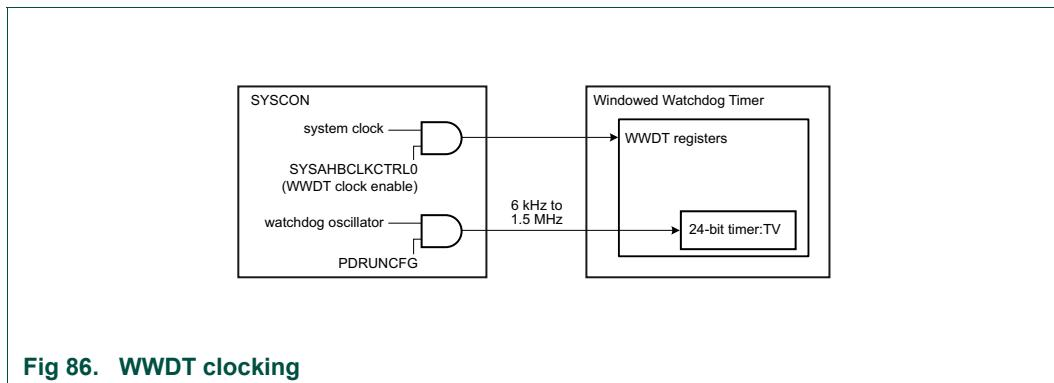

Fig 86. WWDT clocking
- The watchdog clock (WDCLK) is generated from always on FRO_1MHz clock, see Figure 86 that can be divided by WDT clock divider register value in SYSCON module. See Table 105. The accuracy of this clock is limited to +/- 15% over temperature, voltage, and silicon processing variations. To determine the actual watchdog frequency, use the frequency measure block. See Chapter 11 “LPC55S1x/LPC551x Analog control”.